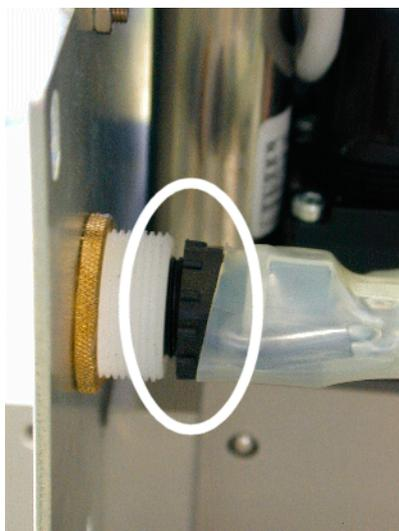

Figure 19 Power switch with lock nut
4. Cut the heat-shrink tubing at the power switch in the area of the lock nut, as shown in Figure 19.
5. Loosen the lock nut (Figure 19) and unscrew the power switch.